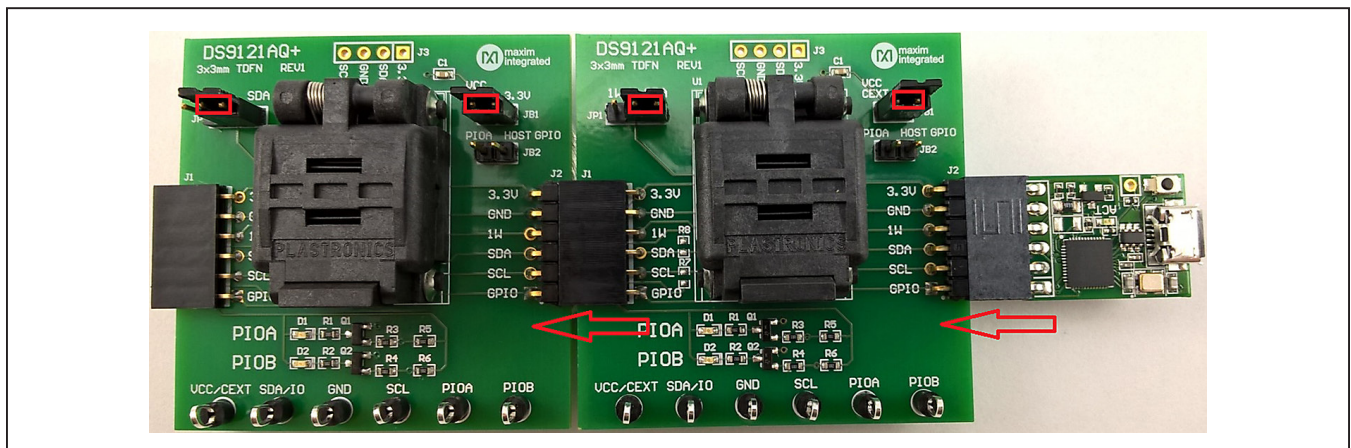

Figure 10. DS9481QA-300 and DS9121AQ
- d) Connect the first DS9121AQ J2, 6-pin female socket into the DS9481P-300#, 6-pin male plug, as shown in Figure 10.
- e) Connect the second DS9121AQ J2, 6-pin female socket into the 1st DS9121AQ J1, 6-pin male plug. (Figure 10).
- f) For the first socket board with DS2476, configure the jumpers JP1 to use SDA and JB1 to use 3.3V. With the DS28E36, configure the jumpers to JP1 to use 1W and do not populate JB1 (Figure 10).